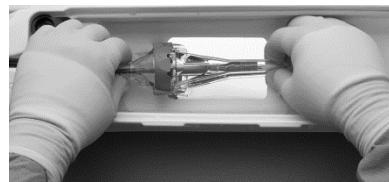

Figure 44
14. While holding the capsule guide tube stationary, advance the inflow cone to crimp the inflow portion of the bioprosthetic frame until the outflow cone contacts the capsule guide tube (Figure 44).